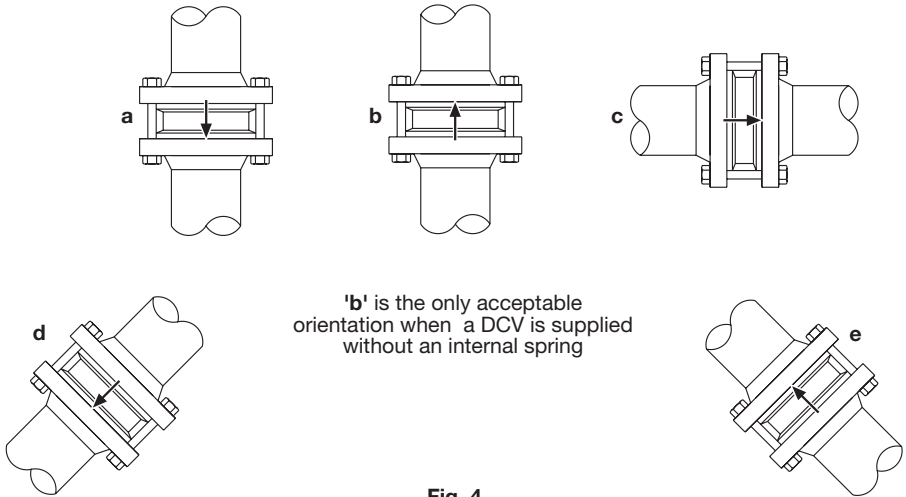

Fig. 4
**3.5** Disc check valves simply fit between two pipe flanges (see Figure 4). Standard gaskets are used either side of the valve together with longer bolts or studs. **Note:** flanges, bolts (or studs), nuts and joint gaskets to be provided by the installer. Normal sensible flange bolting practice should be followed e.g. torque tightening the bolts in opposite sequence.